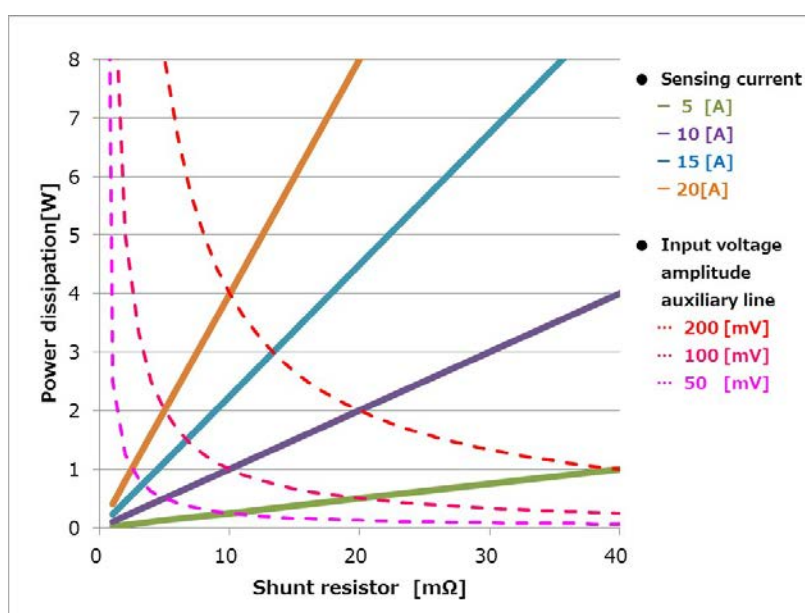

Fig.7 Relationship between shunt resistor and power dissipation
- a) The shunt resistor value should be set with consideration of both power dissipation at the resistor and the sensing accuracy. Smaller shunt resistance is desired in terms of the power dissipation, on the other hand, the input voltage amplitude of ± 200 mV is desired in terms of the sensing accuracy (e.g. linearity, SNR). Fig.7 shows the relationship between the shunt resistance and power dissipation. In this graph, a point at intersection of the solid line (relationship between shunt resistance and power dissipation) with dotted line (input voltage amplitude auxiliary line) is a typical setting value. To obtain sufficient current sense accuracy, the input voltage amplitude of ± 200 mV is recommended. Please check if the power dissipation is satisfied from this graph and the sensed current.